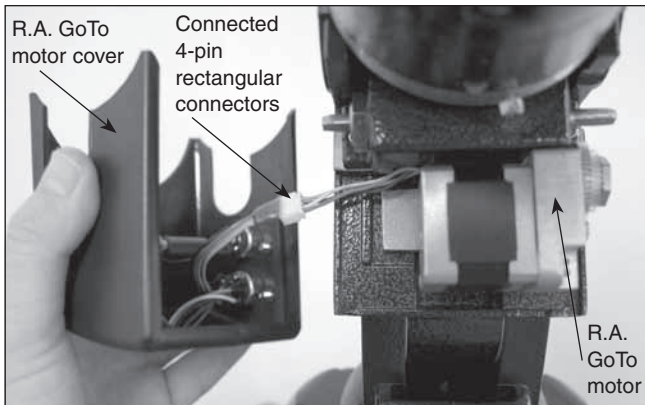

Figure 7. R.A. GoTo motor wiring
6. Take the R.A. GoTo motor cover and hold it near the installed R.A. GoTo motor. On the inside of the motor cover, you will see a set of wires with a white 4-pin rectangular connector attached. Carefully connect the 4-pin rectangular connector attached to the R.A. GoTo motor cover to the corresponding 4-pin rectangular connector on the R.A. GoTo motor. Once connected, the wiring of your R.A. GoTo motor should resemble **Figure 7**.